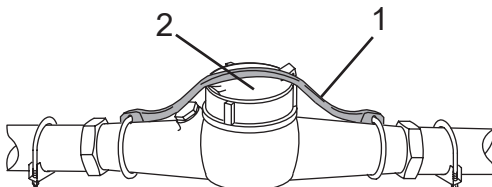

Figure 108
1. Slide the retaining strap (Figure 108 Item 1) to one side and open the cover (Figure 108, Item 2).
4. Close the cover (Figure 108, Item 2) and secure using the retaining strap (Figure 108, Item 1).